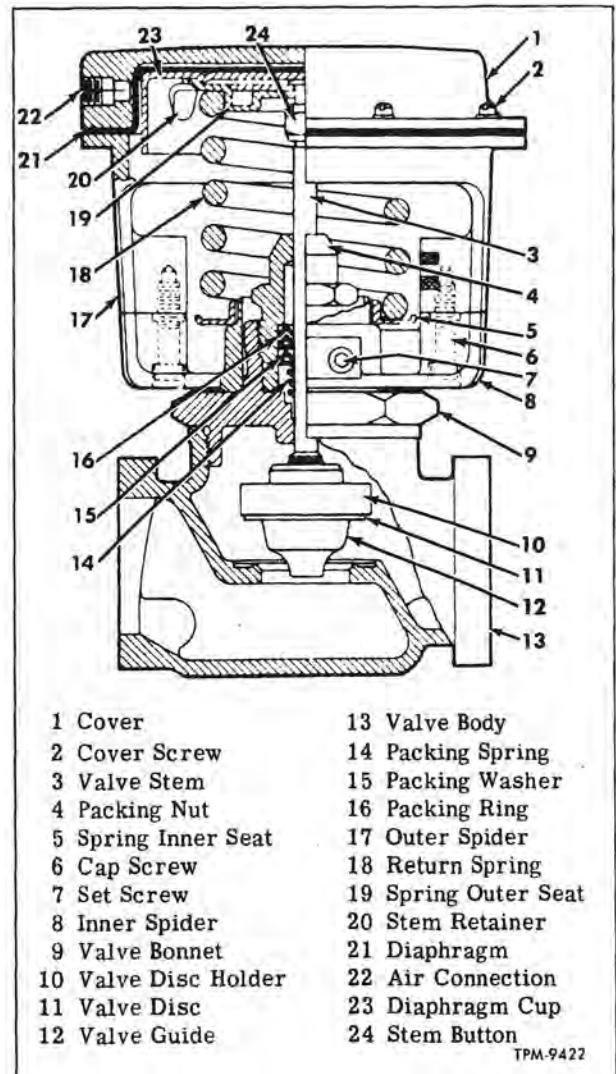

Figure 24—Water Modulation Valve
Water modulation valve (fig. 24) is an air operated water control valve installed in heater water
**NOTE:** The packing nut (4, fig. 24) is self-adjusting; excessive tightening will not stop packing from leaking. The packing nut must however, be threaded completely into bonnet.
**NOTE:** Key numbers in text refer to figure 24.
1. Unscrew valve bonnet (9) with valve mechanism from valve body (13).
2. Using a screwdriver through opening in outer spider (17), pry stem retainer (20) in or out to uncouple valve stem (3) from lock.
3. Place mark on cover (1) and outer spider (17) to assure assembly of parts in correct rela-
NOTE: Key numbers in text refer to figure 24.
2. Assemble valve holder (10), valve disc (11) and valve guide (12) on end of valve stem (3) and tighten firmly.
3. Apply light silicone lubricant to packing rings (16) and to interior of packing nut (4), then insert stem through bonnet (9) and install packing spring (14), packing washer (15), one packing ring (16), another packing washer, remaining two packing rings (16), and packing nut (4) onto valve stem (3) in sequence mentioned. NOTE: Turn packing rings on valve stem threads with the spot of paint on each ring facing outward from valve body. Rings must be positioned as shown in figure 24. Screw packing nut (4) into bonnet (9) and then tighten nut firmly.
4. Thread stem button (24) on end of valve stem to a distance whereby over-all length of stem with stem button and valve guide equals measured length recorded prior to disassembly.
5. Attach outer spider (17) to inner spider (8) with two screws (6); then position spiders over bonnet (9) and secure with two set screws (7).
6. Position valve return spring inner seat (5), return spring (18), and spring outer seat (19) over valve stem in sequence mentioned; then compress spring and engage stem retainer (20) on end of stem (3).
7. Position diaphragm cup (23) over outer spring seat (19); then position diaphragm (21) over cup. While holding valve in closed position (compress stem return spring), install cover (1) over diaphragm and spider. Align marks on cover and spider made prior to disassembly and attach with cover screws (2). Tighten screws firmly.
8. Screw bonnet (9) and valve mechanism into valve body (13); then tighten bonnet firmly.